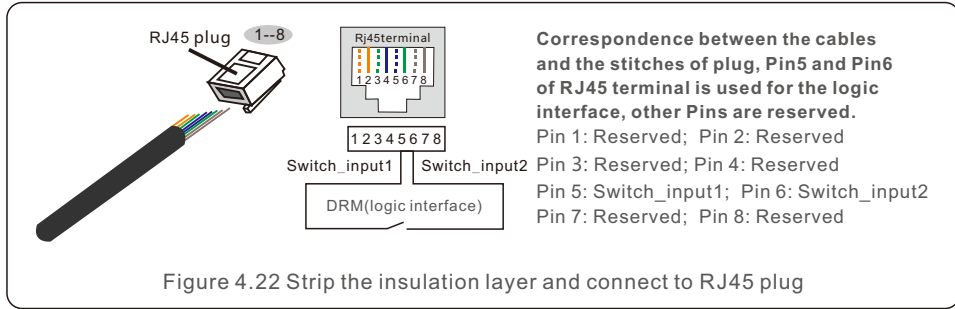

Figure 4.22 Strip the insulation layer and connect to RJ45 plug
2. Use the network wire stripper to strip the insulation layer of the communication cable. According to the standard line sequence of figure 4.22 connect the wire to the plug of RJ45, and then use a network cable crimping tool to make it tight.